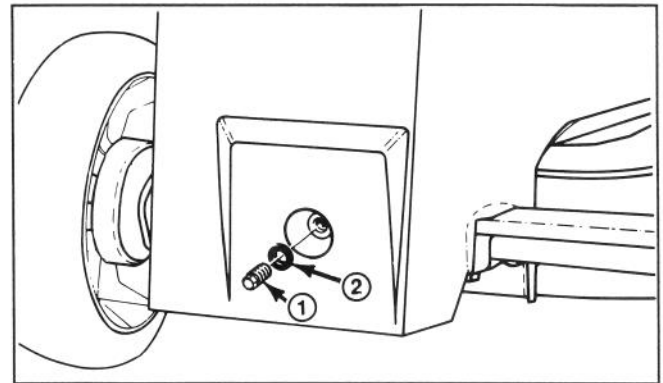

Figure 28
5. Reach between deck and gear case and clean around plastic gear case plug (Fig. 28). Remove gear case plug and gasket and watch for oil to drip out of hole. If oil drips out, quickly reinstall gear case plug and gasket because oil is at proper level. If oil does not flow, add gear oil: see step 6.